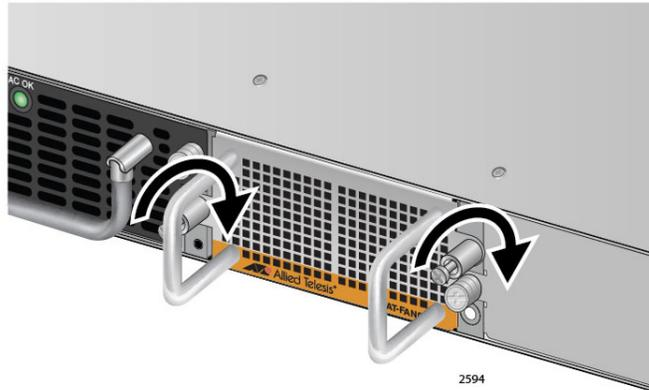

Figure 23. Tighten AT-FAN06 Captive Screws
4. Tighten the captive screws to fasten the fan module to the chassis. See Figure 23.